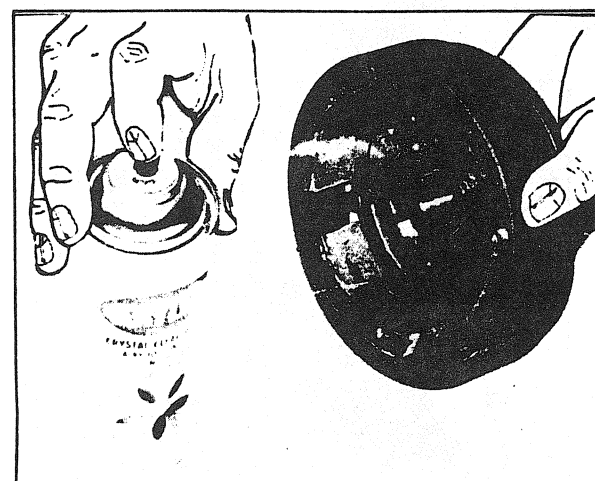

FIGURE 40
- Install the (4) nuts and washers and tighten.
- Spray the magneto ring with 'crystal clear' (fig. 40). Allow five (5) min. to dry.